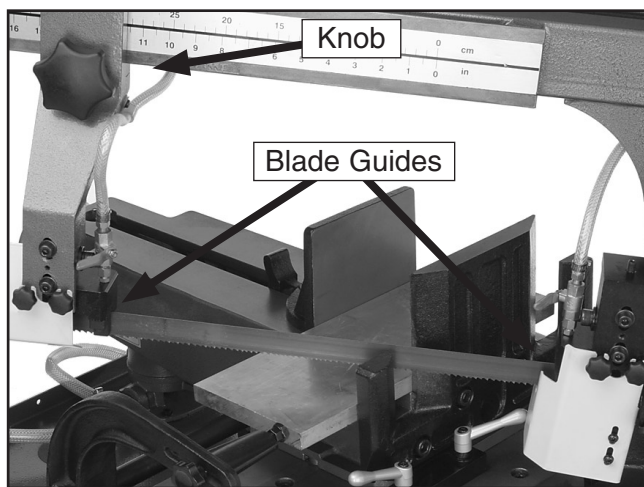

Figure 24. Blade guides.
1. Loosen the knob shown in **Figure 24** and slide the rear blade guide as close to the workpiece as possible, then tighten the knob.